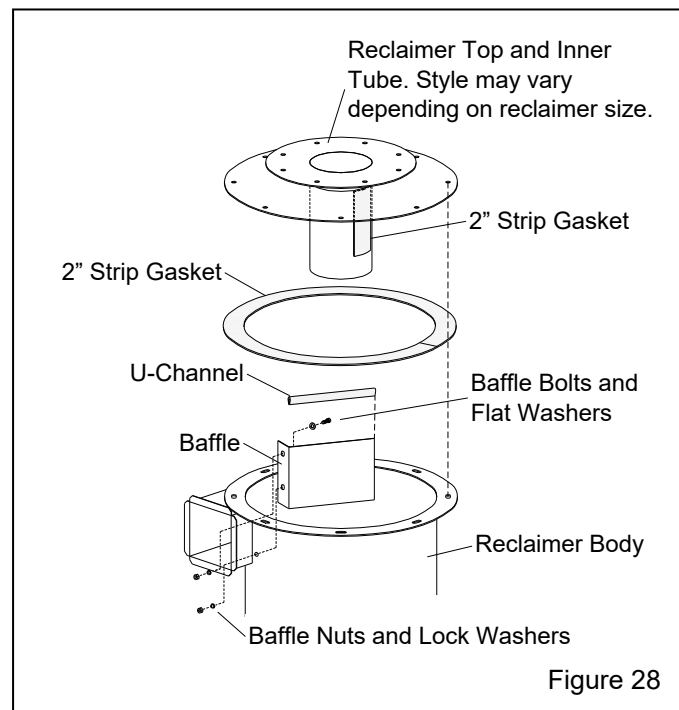

Figure 28
7.10 Removing or Replacing Reclaimer Inlet Baffle – Figure 28